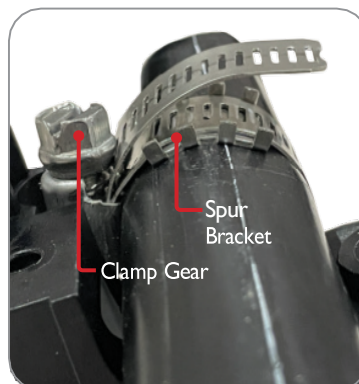

Figure 15
1. The spur bracket MUST be installed completely under the hose clamp ring at the top of the cable. (Figure 15)